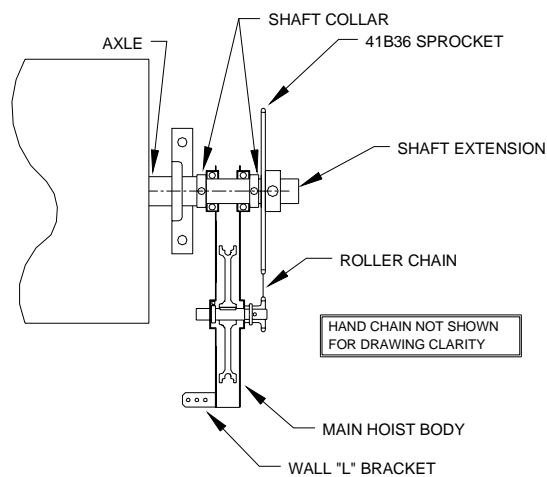

Figure 16.
11.3 **Reduced drive operator** — 4:1 chain hoist should be installed as shown in Figure 16.